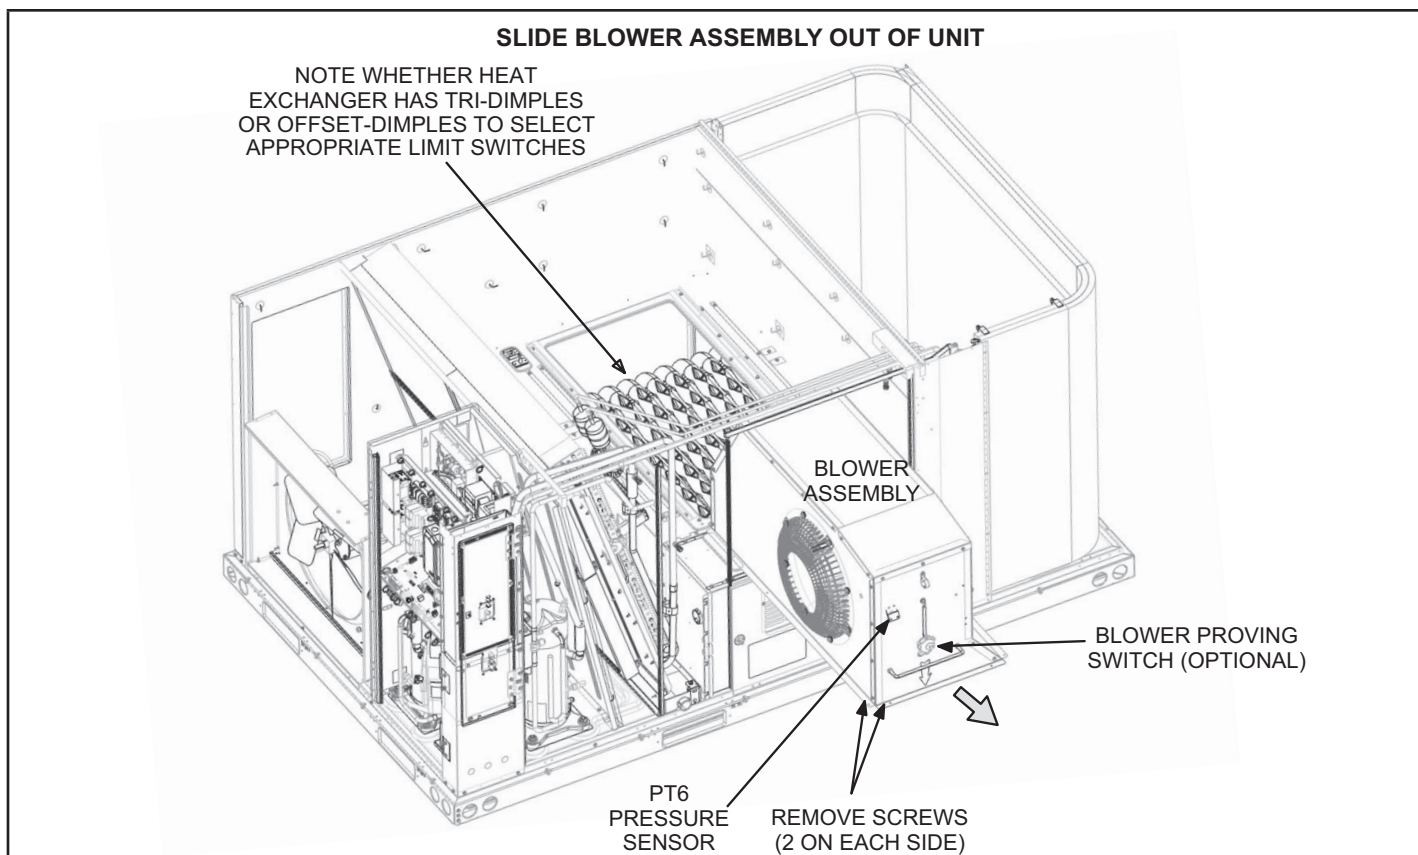

FIGURE 7
- 7 - Remove four screws securing blower assembly to unit. See FIGURE 7.
Note - Take note of the heat exchanger dimples before replacing the blower. See FIGURE 7. The appropriate replacement limit switches are determined by tri- or offset- dimples. See "Install New Limit Switch" section.
11 - Install replacement blower assembly flanges into rails on the blower deck in the same manner it was removed. Secure into place using four screws shown in FIGURE 7.
4 - Select the replacement switch as follows (see FIGURE 7 to view the heat exchanger dimples):